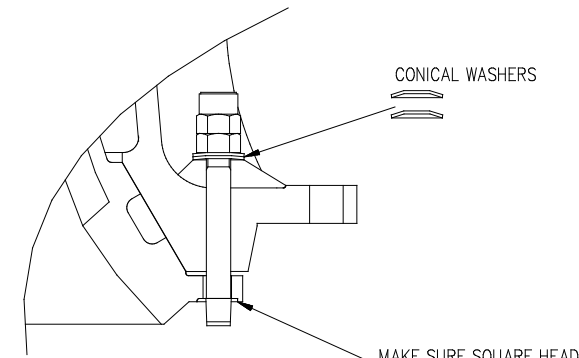

Fig. 6.3.4
3. Insert and tighten concave mounting bolts, making sure that the bolt's square head is correctly positioned in the recess of the top frame. It is recommended that new conical spring washers be used. (Fig. 6.3.4)